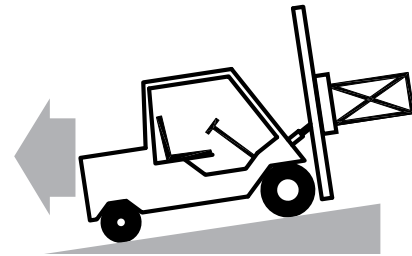

Figure 3-9
- Always back down ramps or inclines. Driving forward down a ramp or incline with a clamped load will lessen the stability of the truck. (Figure 3-9)